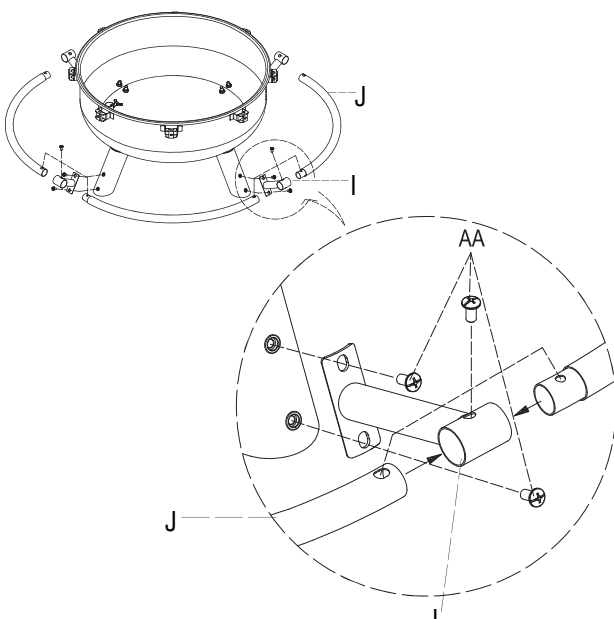

Fig.2
Insert one Outer Rim(J) into another and attach the Outer Rim Holder(I) to the Leg with 12pcs M6x15 screw(aa). Repeat the same procedure to install the rest Outer Rim, see Fig.2